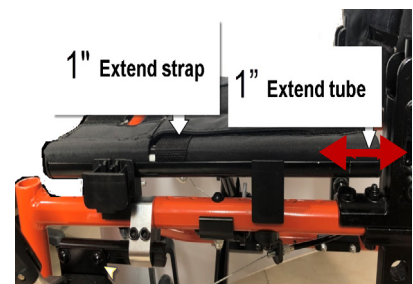

Figure 4.20
4.7.9 Fitted with 1" extended seat tube set and 1" deep extended webbing, the seat depth is 13". (See Figure 4.20)